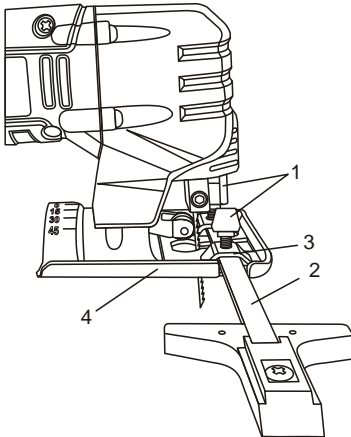

Fig. 7
1. Install two edge guide mounting screws (1) (Fig. 7).
2. Insert edge guide (2) into the edge guide mounting slots (3) in the base plate (4).
**NOTE:** Remove the edge guide mounting screws as shown in Fig. 7 when bevel cutting.